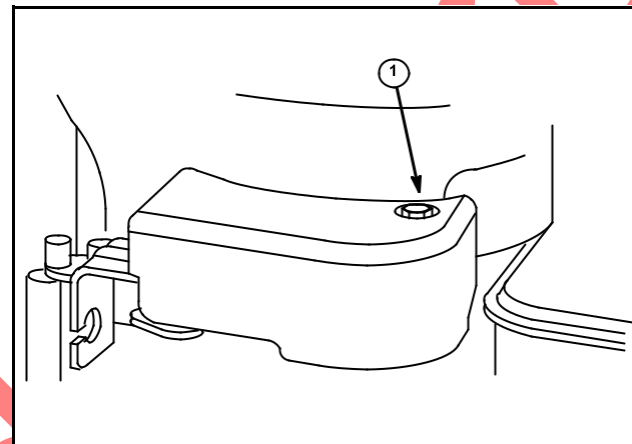
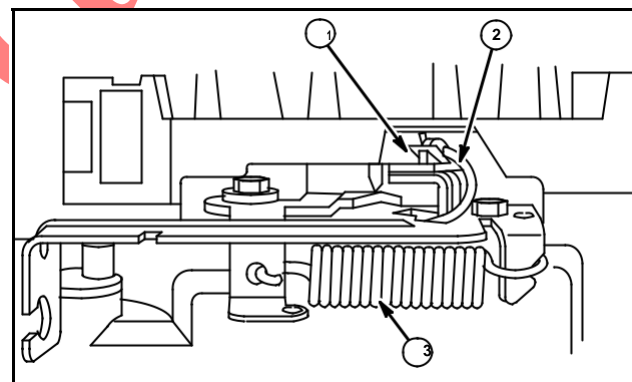

Fig. 124
Fig. 125
1. Remove screw from brake cover (1) and lift brake cover straight up, Fig. 124.
2. Remove three (3) blower housing screws and remove blower housing.
3. Straighten stop switch wire (2) and remove from stop switch (1). Remove brake spring (3), Fig. 125.